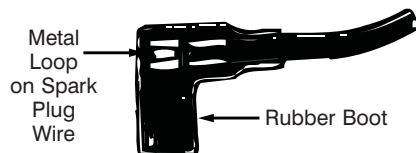

Figure 10
- Attach spark plug wire to spark plug. If unit is equipped with a rubber boot over the end of the spark plug wire, make certain the metal loop on the end of the spark plug wire (inside the rubber boot) is fastened securely over the metal tip on the spark plug. See Figure 10.